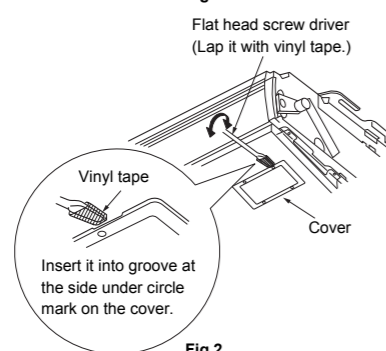

Fig.2
- Lap the end of flat head screw driver with vinyl tape, and forcedly insert it into the groove at the side under circle mark on the cover. (Be careful not to damage the panel.) (Fig. 2)